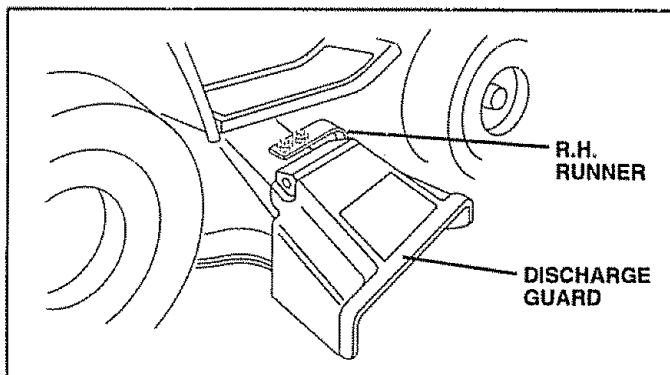

FIG. 9
- Use the runner on the right hand side of mower as a guide. The blade cuts approximately an inch outside the runner (See Fig. 9).